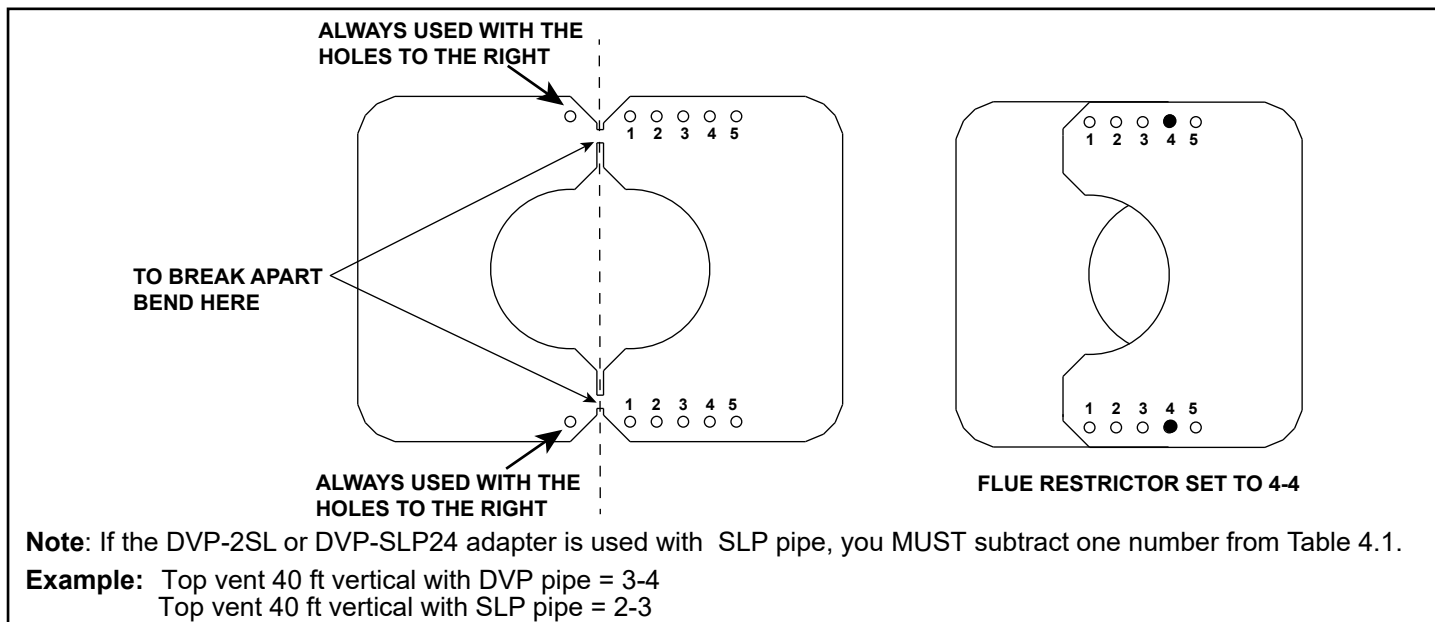

Figure 4.16 Setting the Flue Restrictor
3. Orientate and align the two pieces of the flue restrictor as shown in Figure 4.16.
4. Refer to Table 4.1 and Figure 4.16 to match the amount of vertical you have in the system and determine the appropriate position to set the flue restrictor.